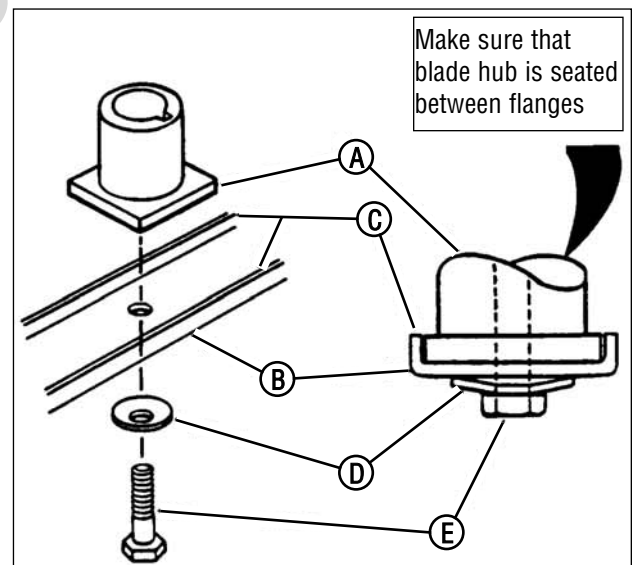

Figure 20: Removing the mower blade
3. Remove the blade (**B, Figure 20**).
- Reinstall blade (B, Figure 20). Note the correct assembly order:
- (A) Blade hub
- (B) Blade
- (C) Blade flange (facing up)
- (D) Cone washer (concave side up)
- (E) Capscrew